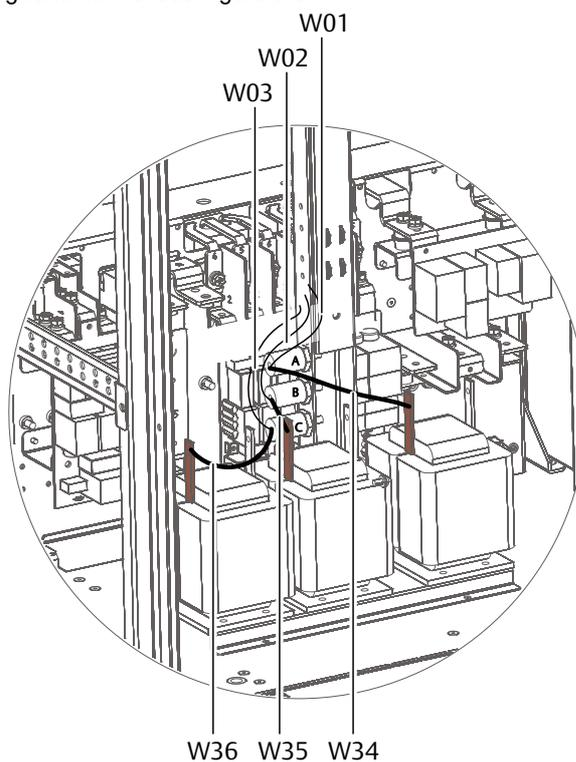

Figure 8-5 Inductor connections (3)
d) Use the M6 × 16 SEMS screws to connect the other end of W34 to one end of the disconnected cable, W01, at insulating terminal PA, the torque value is 4.8N.m. Then connect W35 and W02 together at insulating terminal PB, and W36 and W03 at insulating terminal PC. See Figure 8-5.